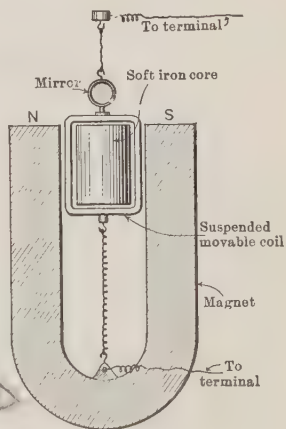

FIGURE 380. — D'ARSONVAL GALVANOMETER.
**244. The d'Arsonval Galvanometer.** — If a permanent horse-shoe magnet is placed with poles up as in Figure 380, and a flat